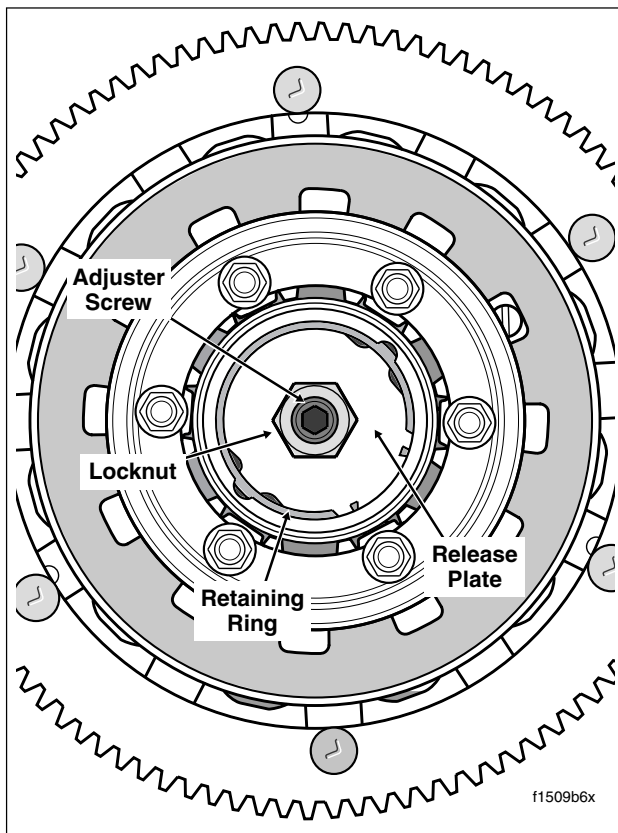

Figure 6-5. Clutch Adjustment
4. See Figure 6-5. Loosen locknut on clutch adjuster screw. To take up all free play in push rods, turn screw inward (clockwise) until lightly seated.